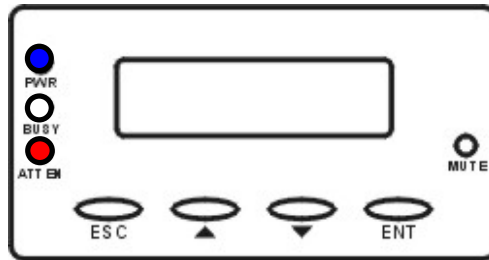

Figure 3-3: LCD Keypad Panel
The front panel LCD panel comes with three (3) status-indicating LEDs. The LEDs on the front panel are marked, from top to bottom, **PWR**, **BUSY**, and **ATTEN**, as shown in *Figure 3-3* below. The definitions of these LEDs are shown in *Table 3-5*. The mute button can be used to stop the alarm until the next controller event occurs.